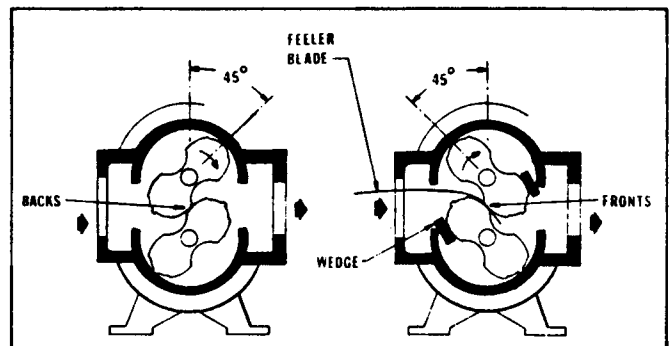

Figure 5- Impeller Timing Viewed From Gear End
3. **GEAR REMOVAL:** For this operation, the impellers should be wedged as shown in Figure 5. Back off gear clamping nuts (17) about 1/4". Use a puller of the type shown in Figure 10. Position it around the gear per Figure 9. As the puller set screw is torqued, the puller will have a tendency to turn and contact teeth of the other gear. To prevent this contact, hold the puller corner nut with a wrench while torquing the set screw. Once the gear is unseated, remove the puller. Remove gear nuts (17) and the gear. Repeat same procedure for the other gear. **NOTE:** Do not remove gear nuts (17) completely before the gears are unseated from the taper fits or damage/injury may result.
4. **GEAR INSTALLATION:** Place impellers in correct position as previously marked. Be sure shafts and gear bores are clean and free of scratches. Clean the shaft tapered fits. Place hardwood wedges as shown in Figure 5. Oil gear nut threads, face of the nut, and shaft threads. Install drive gear (4) and gear nut (17). Tighten the drive gear nut to the torque given in Table 5. Blower assembly must be fastened down for torquing operation.
5. Installing driven gear (4) – Insert a long, metal feeler gauge between the impellers' lobes at the fronts or backs as shown in Figure 5. Feeler gauge thickness to be a middle value from Table 6 for fronts and backs. Oil gear nut threads, face of the nut, and shaft threads. Install driven gear and gear nut. Tighten lightly with a small wrench, then check front and back clearances against Table 6 for each 45° position. Both fronts and backs should be about the same and within the specified range in Table 6. Adjust gear position, if necessary, then insert the corrected feeler gauge and wedges and use a torque wrench to tighten the gear nut to the torque specified in Table 5. Remove wedges and rotate the drive shaft by hand to make sure there are no gear tight spots or impeller contacts.
7. When clearances are correct, clean and re-install the gearhouse. Check condition of flange gasket (7) and replace if questionable. Fill gearhouse to correct level with proper grade of oil.